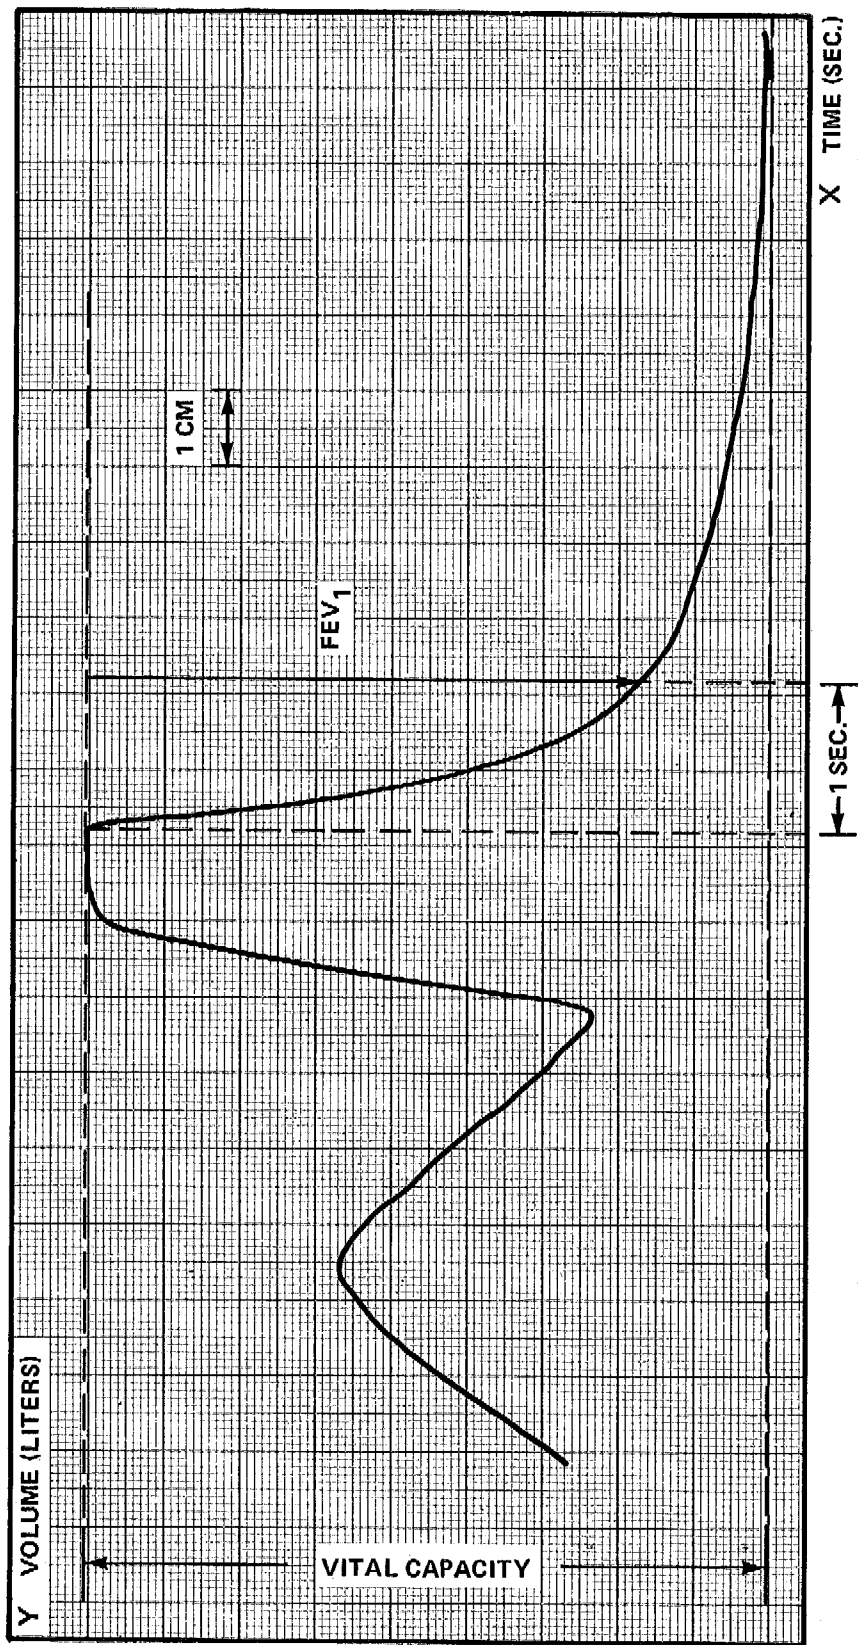

Figure 14 - Sample Spirogram
C.4. The Y axis POLARITY switch can be set to either + or - depending upon the operator's preference. The sample spirogram, shown in Figure 14, was recorded with this switch in the - position. Notice that end expiration is at the bottom of the tracing.
F.1. Figure 14 is a typical spirogram recorded on the X-Y-T recorder. The X axis is time and the Y axis is volume. The same volume calibration used for the flow-volume loop analysis applies to spirogram analysis. A spirogram recorded on the direct writing recorder is analyzed similarly to the X-Y-T recorder tracing except all calculations must be corrected to BTPS. Additionally, this paper is currently printed with a millimeter grid. To simplify its use, a clear plastic overlay (Catalog No. 22110) is supplied which allows direct conversion to liters.